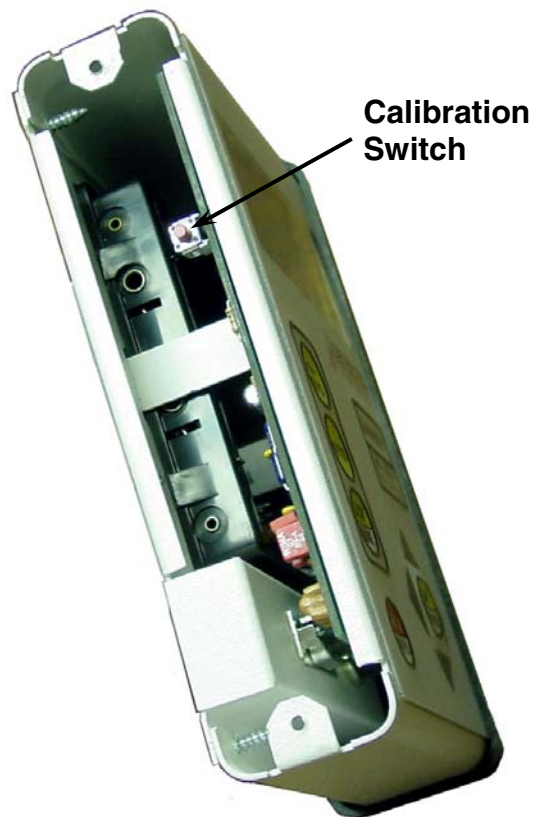

Figure No. 8
2. Locate the calibration switch on the circuit board and push it in. See Figure No. 8.